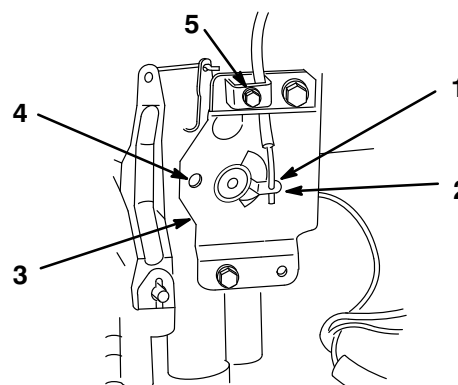

**Figure 6**
3. Check the gap between upper control bar and fixed bar with wheel drive fully engaged. Gap should be approximately 1/4 in. (6 mm) (Fig. 6).